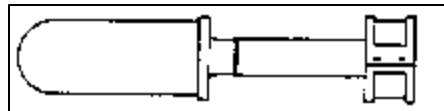

Figure 52. U.S. M23 rifle smoke grenade.
- (1) Rifle grenades, unlike hand grenades, are projected only from the service rifle and are not to be thrown. They have five functions: AT, APERS, signaling, screening, and incendiary.
- (2) Smoke and streamer grenades (shown in Figure 52) are of the burning type and have vent holes.